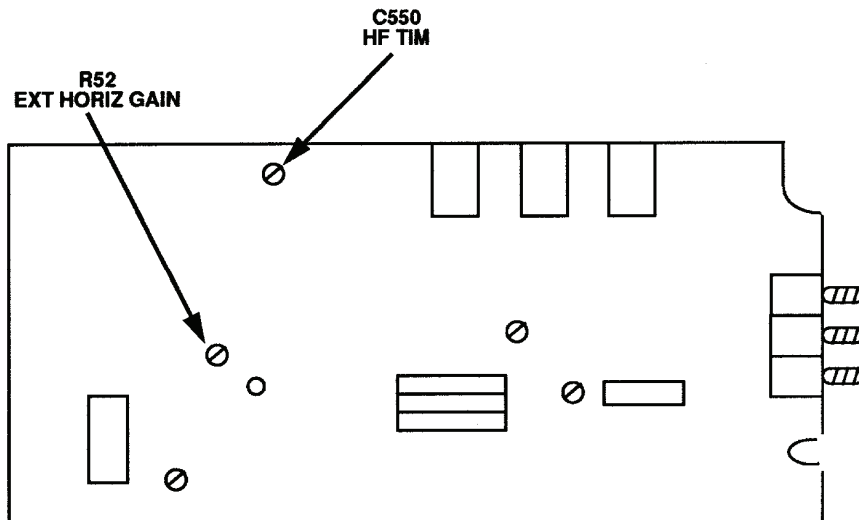
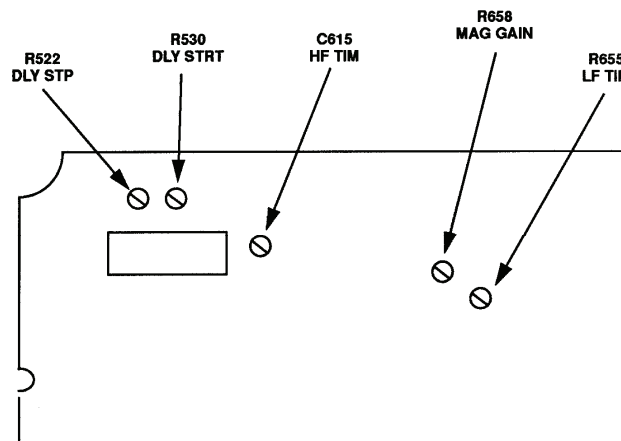

Figure 1. Test instrument A board - left-side view.
Figure 2. Test instrument B board - right-side view.
(1) Connect oscilloscope calibrator **SOURCE/MEASURE CHAN 1** to **TI EXT HORIZ AMPL.**
(2) Set oscilloscope calibrator **VOLTAGE** output for 0.5 V, 1 kHz.
(3) Adjust **TI POSITION** control to position dots to extreme right and left vertical graticule lines.
(4) Adjust dual trace amplifier **CH 1 POSITION** control to vertically center the dots.
(5) Adjust oscilloscope calibrator **EDIT FIELD** knob for 10 divisions of horizontal deflection on oscilloscope. If oscilloscope calibrator **err** display does not indicate within $\pm 3\%$, perform **b** below.
b. Adjustments Adjust oscilloscope calibrator **EDIT FIELD** knob for a 0.0% **err** display indication. Adjust **R52 EXT HORIZ GAIN** (fig. 1) for a 10 division horizontal deflection on oscilloscope (R).
(1) Release TI SWP MAG pushbutton (out), set TI MAIN SEC/DIV switch to 1 m and oscilloscope calibrator MARKER output for 1 mS/D. If necessary, adjust oscilloscope calibrator EDIT FIELD knob for a 0.0% err display indication.
(2) Adjust TI POSITION control to align 1st time marker with 1st vertical graticule line (extreme left). Adjust R655 LF TIM (fig. 2) to align one time marker per division (R).
(3) Press TI SWP MAG pushbutton. Adjust R658 MAG GAIN (fig. 2) to align one time marker per division (R).
(4) Release TI SWP MAG pushbutton (out), set TI MAIN SEC/DIV switch to .5 μ and oscilloscope calibrator MARKER output for 0.5 μS/D.
(5) Adjust TI POSITION control to align 1st time marker with 1st vertical graticule line (extreme left). Adjust C550 HF TIM (fig. 1) to align one time marker per division (R).
(1) Set TI **MAIN SEC/DIV** switch to **1 μ**, **DLY'D SEC/DIV** switch to **.5 μ** and oscilloscope calibrator **MARKER** output for 0.5 μS/D. If necessary, adjust oscilloscope calibrator **EDIT FIELD** knob for a 0.0% **err** display indication.
(2) Adjust TI **POSITION** control to align 1st time marker with 1st vertical graticule line (extreme left). Adjust C615 HF TIM (fig. 2) to align one time marker per division (R).
(3) Adjust **DELAY TIME MULT** dial to **1.00** and adjust R530 DLY STRT (fig. 2) until intensified portion of trace starts on 2d vertical graticule line (R).
(4) Adjust **DELAY TIME MULT** dial to **9.00** and adjust R522 DLY STP (fig. 2) until intensified portion of trace starts on the 10th vertical graticule line (R).
(5) Press **DISPLAY MODE DLY'D SWP** pushbutton. Adjust R530 DLY STRT and R522 DLY STP (fig. 2) equally until time marker is just visible at start of trace.
(6) Press **DISPLAY MODE INTENS SWP** pushbutton and repeat (3) through (5) above, as necessary, for best compromise.